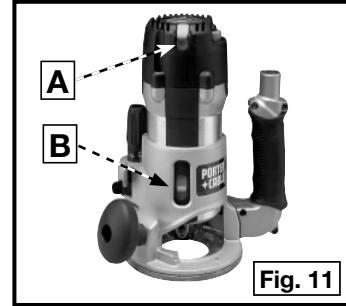

Fig. 11
CAUTION Before starting the tool, clear the work area of all foreign objects. Keep a firm grip on the tool to resist starting torque. Two switches (A and B) Fig. 11 turn this tool "ON" and "OFF". The upper switch (A) will automatically turn the tool "OFF" if the tool is placed upside down on a surface.